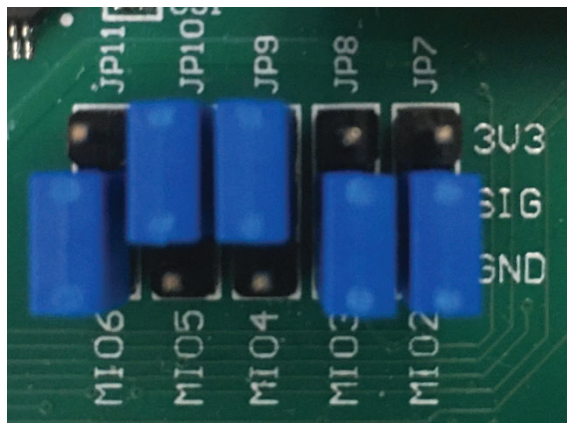

Figure 2. ZedBoard Boot Configuration Jumpers
2. Ensure the ZedBoard boot configuration jumpers are set to use the Micro-SD card as shown in Figure 2. To avoid potential damage when JPIO is changed as described in Table 1, ensure that the VADJ SELECT jumper is set to the correct voltage for the EVAL-AD4857FMCZ.